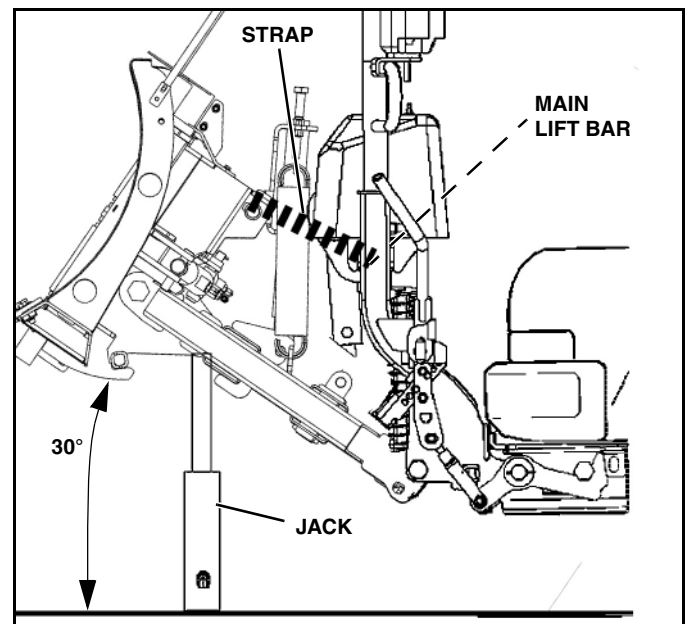

Figure 1-51
2. To lift plow, position jack under A-frame and angle up to a minimum of 30 degrees (or up to the lift stops). (See Figure 1-51).